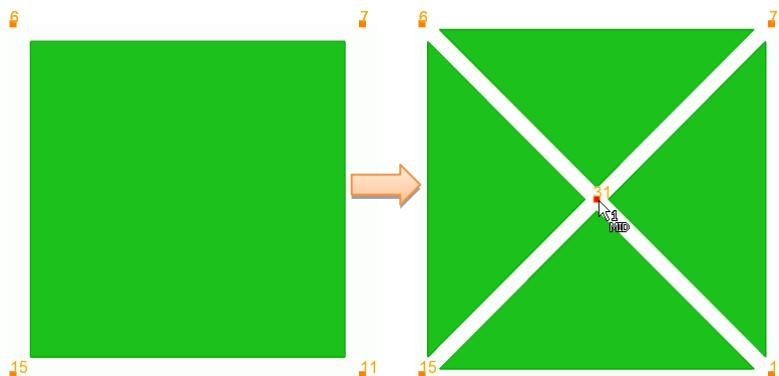

Figure 7-14 Imprint node on the middle of a quad element introduces 4 new triangles.
- 1) It introduces 4 new triangles for a quad element as in Figure 7-14